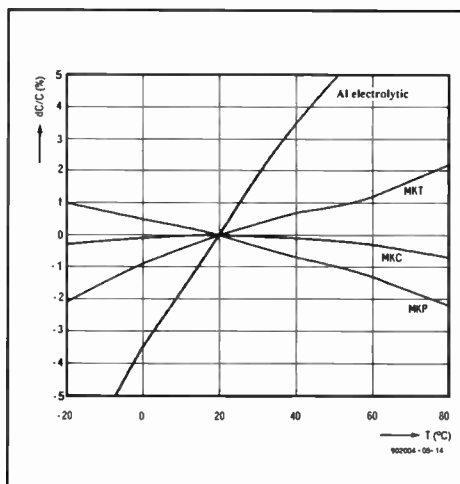

Fig. 3. Temperature-dependent behaviour of four different kinds of capacitor.
- Only a few manufacturers give the value of the *dielectric absorption* (DA) and then only in the case of film capacitors. Here again, the lower this value, the better the capacitor. The DA of electrolytic capacitors is so large that it is never quoted.
- The *temperature behaviour* is usually given for a certain dielectric—see Fig. 3.